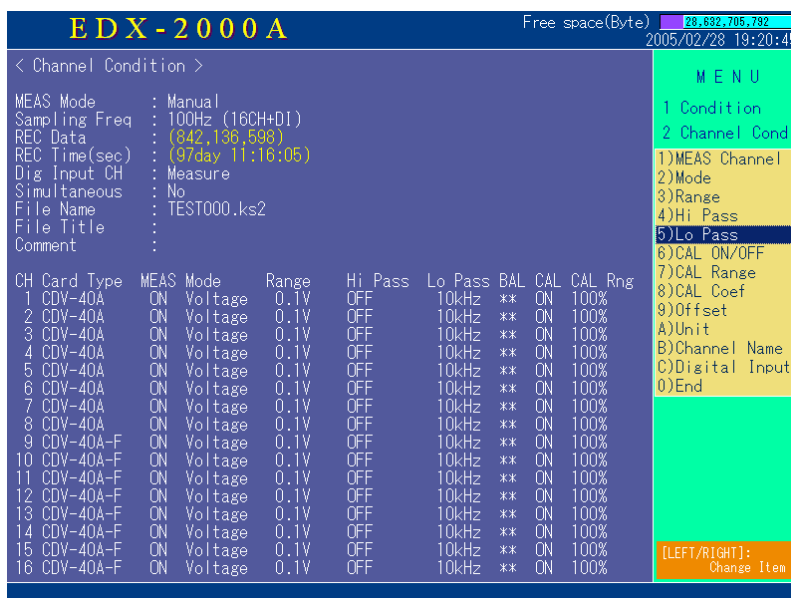

Figure 4. CH Condition Window
- 3) Select 1) CH Condition on the Condition Window to display the following window as shown in Figure 4.